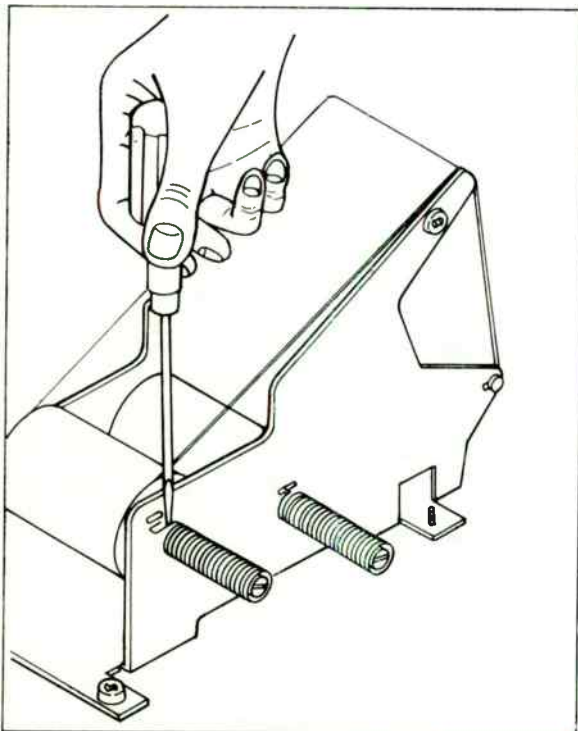

Fig. 2-17 Coil spring removal
1. Release the two coil springs on each dial-film drive-drum shaft, by using a screw driver's blade as shown in Fig. 2-17.